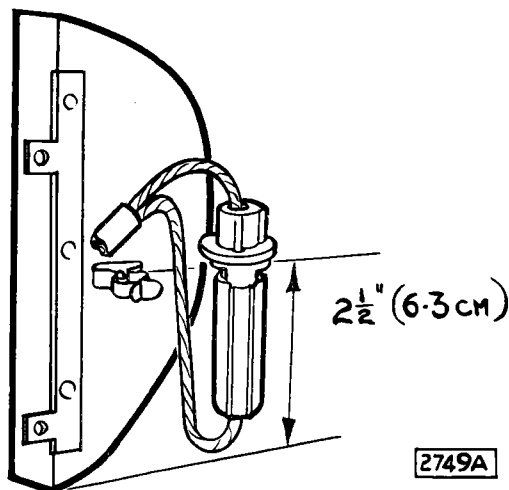

Fig. 73. Showing the position of the clip for the in-line fuse holder
- Secure the chromium plate clip with the screw to the curved side panel as shown in Fig. 73.